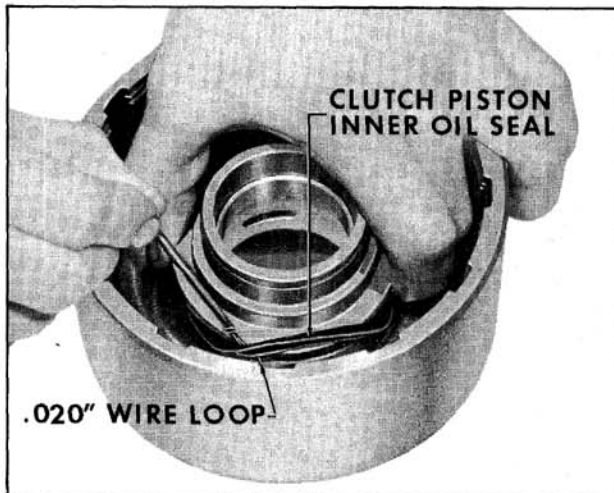

Fig. 6-443 Installing Inner Seal
3. Lubricate with transmission oil and install new forward clutch piston inner seal with seal lip pointing downward. (Fig. 6-443)